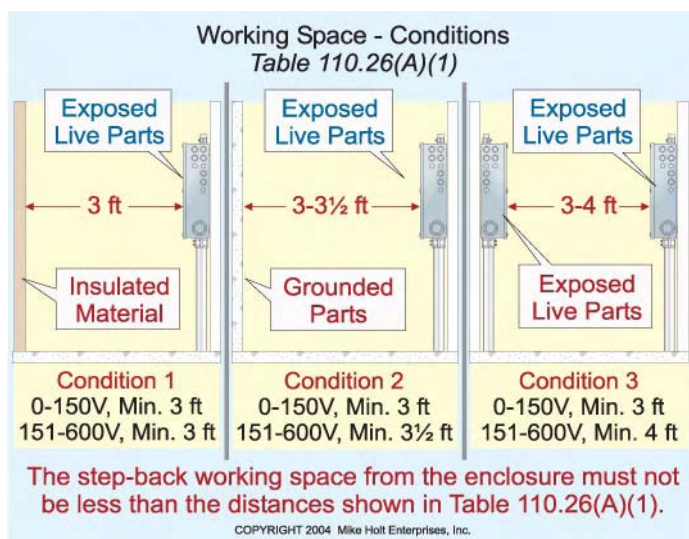

Figure 110–38
(1) Depth of Working Space. The step-back working space, measured from the enclosure front must not be less than the distances contained in Table 110.26(A)(1). **Figure 110–38**